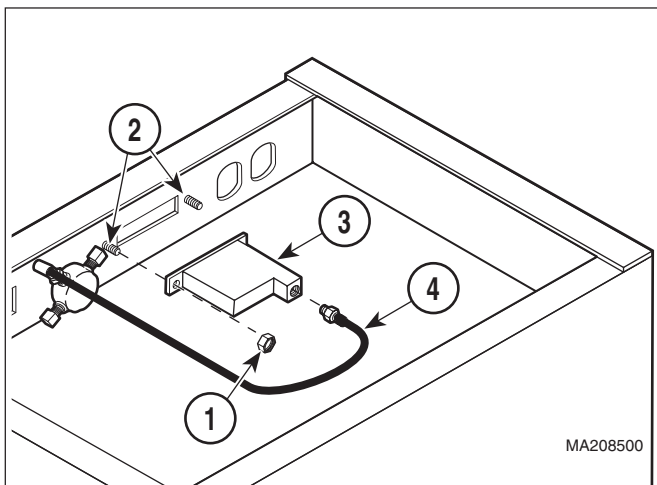

Figure 4-6. Pressure Gauge Removal / Installation
- (1) Remove control box cover (Refer to para 4.1).
- (2) Remove two nuts (1, Figure 4-6) from studs (2).